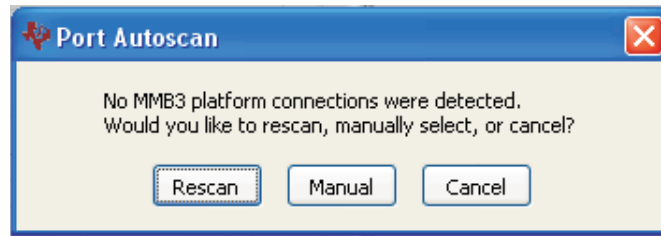

Figure 9. EVM COM Port Autoscan Prompt Window
3. If the plug-in cannot connect to the EVM, you will see a window as shown in Figure 9. This message indicates that the autoscan process for an available COM port has failed, giving you several different options.